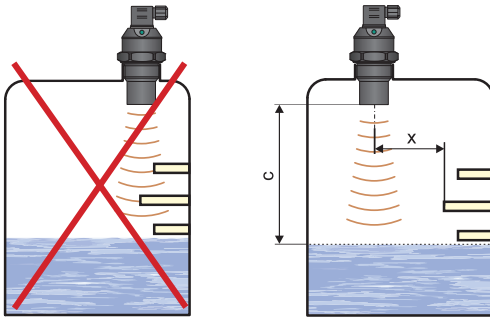

Fig. 6: Minimum distance from close objects in the tank
- h) The site for installing the level meter needs to be chosen so that the emitted acoustic signal is not affected by **nearby objects** (reinforcements, supports, brackets, ladders, heating elements, mixers, etc.). These obstacles may result in false rebounds, increasing measurement inaccuracy (Fig. 6).